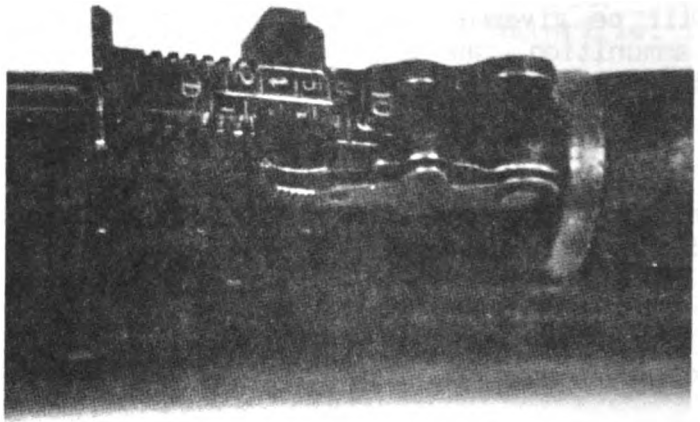

Figure 2
(1) Attach forward end of sling to upper sling swivel.
(2) Thread rear end of sling through its aperture in stock, around oiler, back through aperture, and through adjusting buckle.
7. Perform Function Check Within 20 Seconds. (See fig. 2) (Follow procedures prescribed for the M16A1 rifle, task number 071-311-2001, FM 7-11B1/2.)
- (1) Adjust rear sight: (See fig. 2)